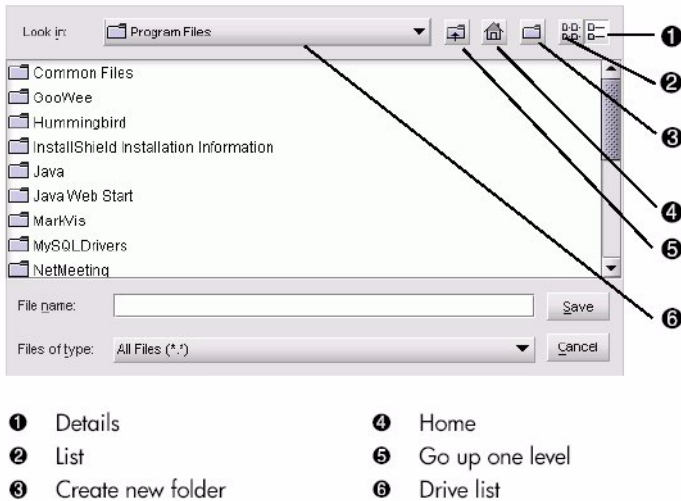

Figure 52 Save dialog box—log windows
- **Export**—Clicking **Export** on a log window displays the Save dialog box shown in Figure 52 on page 121. Click the **Home** icon to return to the files in your home directory. The folders that are shown in the display area of the Save dialog box after clicking the **Home** icon are those that are stored in your home directory. If you choose, you may create a folder for your home directory and save the file there.
1. Click **Export** on the log window to display the Save dialog box. This dialog box contains the controls shown in Figure 52.